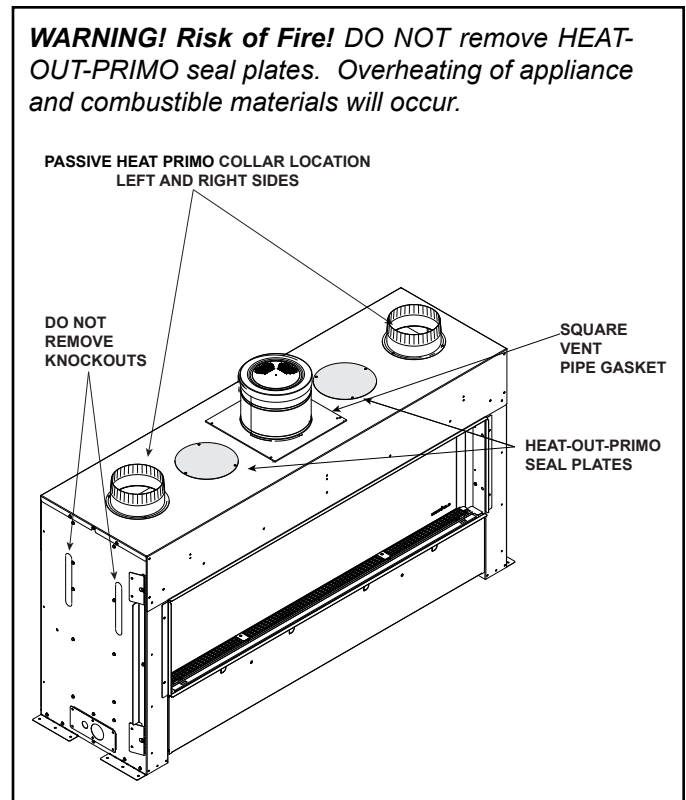

Figure 7.2 Remove PRIMO Passive Heat Seal Plates
1. Remove the two outer passive heat seal plates. See Figure 7.1 and Figure 7.2. Install collars over the openings using hurricane screws provided in the kit.